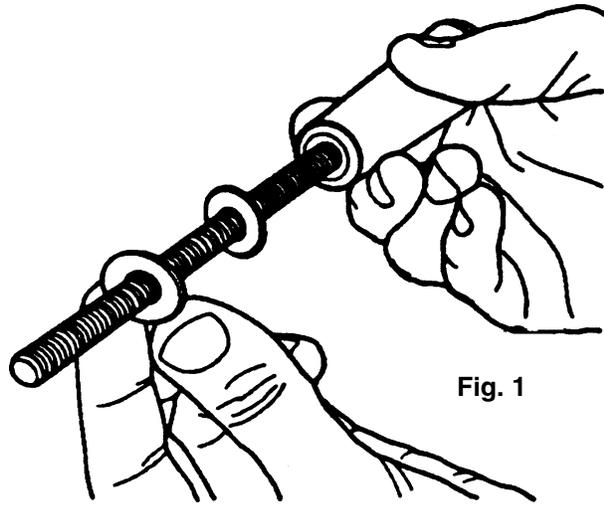

Fig. 1
1. Place two washers (14) on the shaft of the handle (13), as in Fig. 1 .